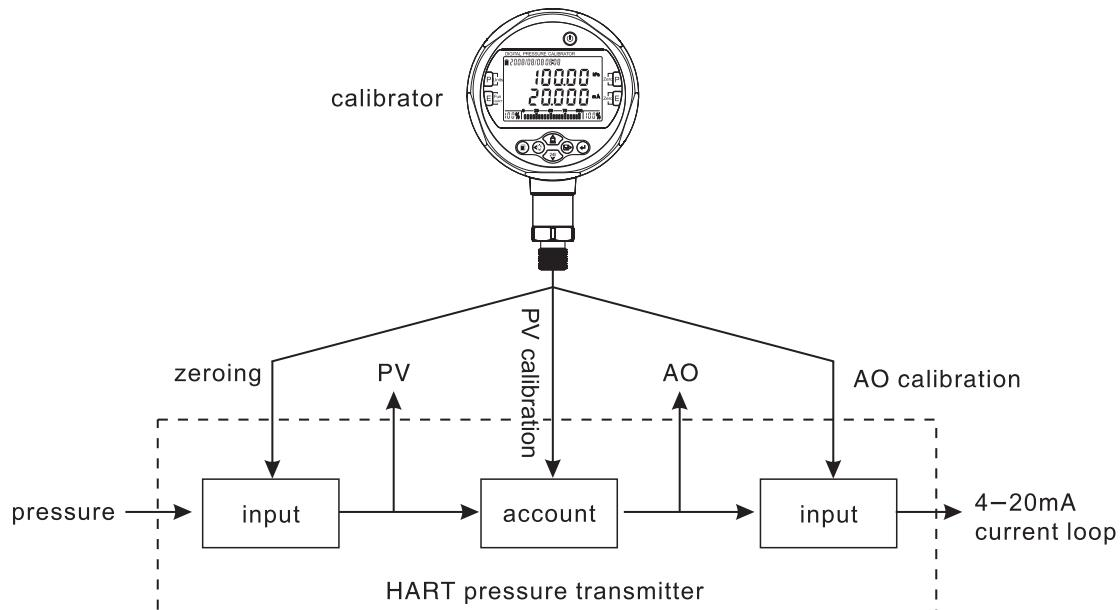

Figure 4-5: HART transmitter working setup map
- (1) Please refer the figure 4-5: HART transmitter working setup map